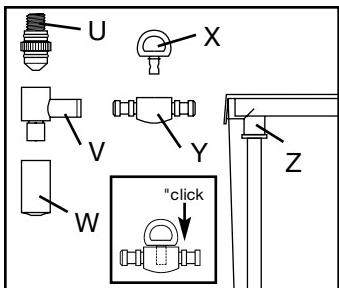

FIG. 3
- Steam Nozzle (figure 3; U) attached to machine
- 4-piece Frothing Assembly (figure 3; V, W, X, Y) packed in Milk Container